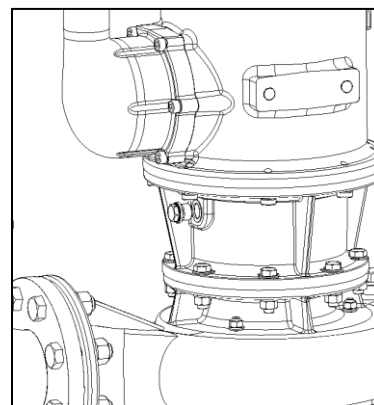

Figure 10
3. Fill in the given quantity and type of oil up to the bottom edge of the tapping (figure 10)